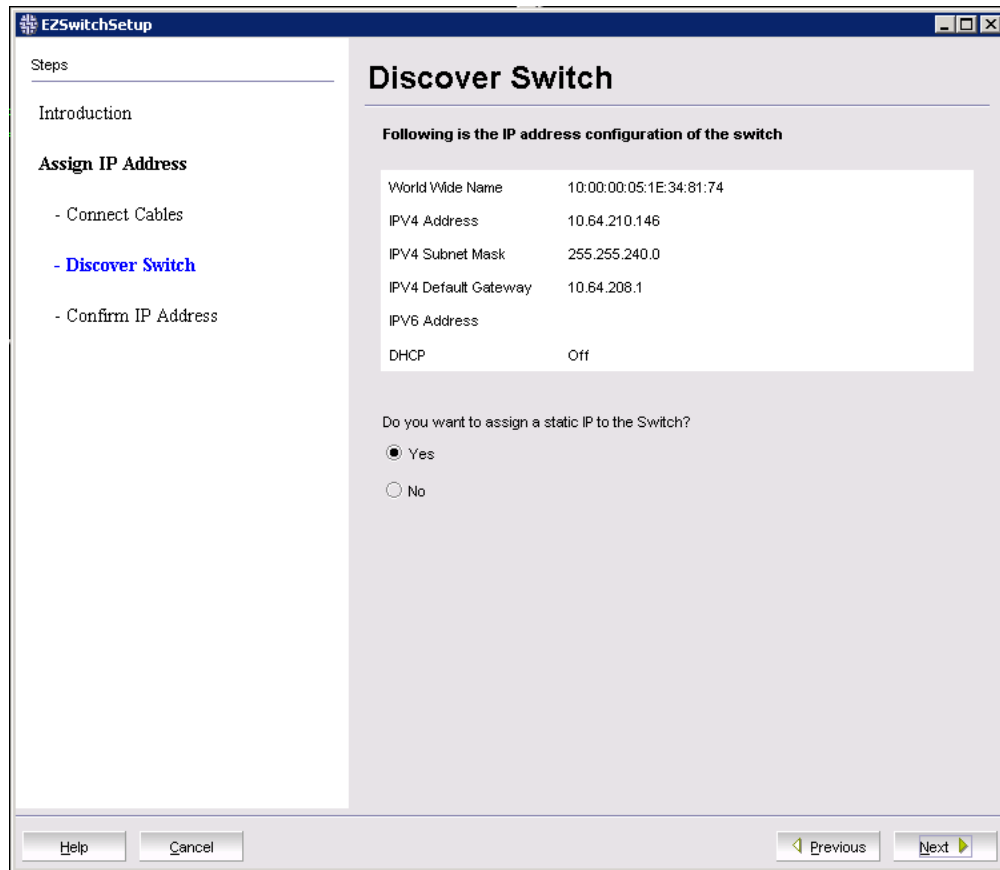

Figure 6-9 EZSwitchSetup - Set Switch IP Address
5. At the next panel (shown in Figure 6-9), to accept the IP address, select the **No** radio button and click **Next**.